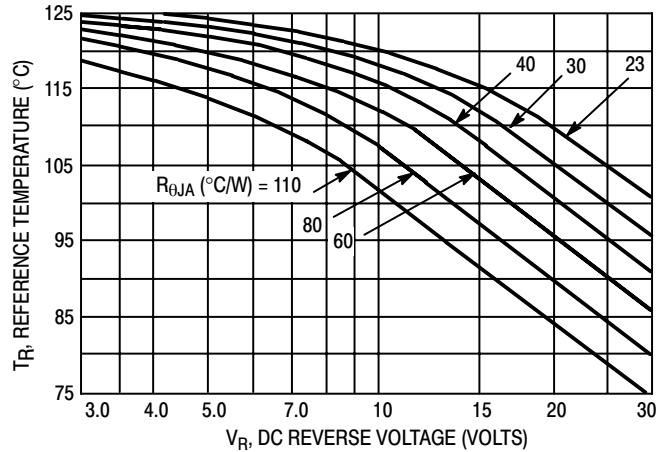

Figure 2. Maximum Reference Temperature 1N5818
Step 2. Find T_R from Figure 2. Read $T_R = 109^\circ\text{C}$ @ $V_R = 9.2 \text{ V}$ and $R_{\theta JA} = 80^\circ\text{C/W}$.